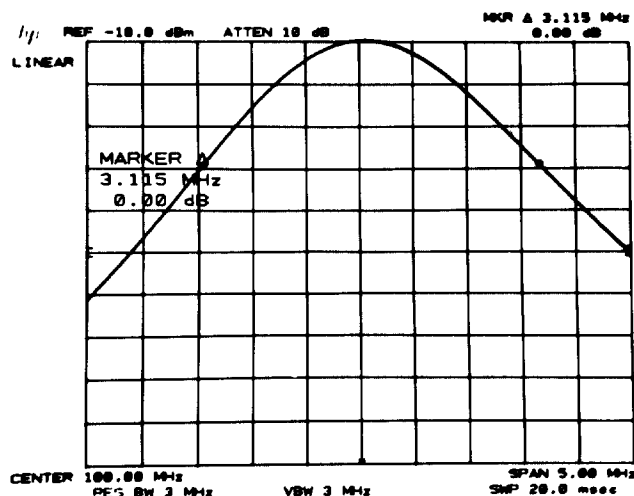

FIGURE 5. RESOLUTION BANDWIDTH MEASUREMENT
7. Press **MARKER Δ** and position movable marker 3 dB down from the signal peak on the negative-going edge of the trace (the **MARKER Δ** amplitude readout should be $.00 \text{ dB} \pm 0.05 \text{ dB}$). The 3 dB bandwidth is given by the **MARKER Δ** frequency readout (see Figure 5). Record this value in Table 5.